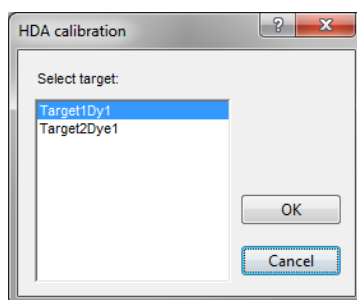

Figure 3.33: The *HDA calibration* dialog box.
- 16.1 From the *HDA batch list window* (**HDA** > **Edit batches**; see 3.5), select a batch and choose **HDA** > **Calibrate** to call the *HDA calibration* dialog box (see Figure 3.33).